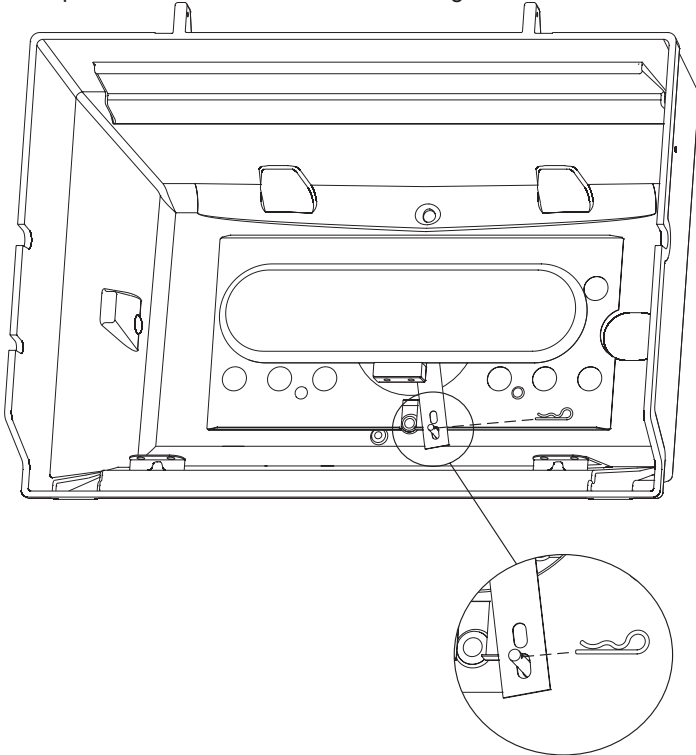

Figure 14
- Slide the bridge pin through the hole in the 1/4-20 x 1 1/2 Phillips Truss Head Screw as shown in Figure 14.